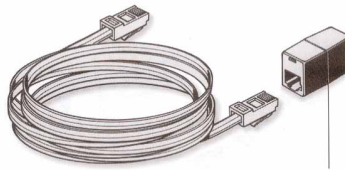

Figure 12. Terminal Connector
3. Connect the other end of the terminal connector to the extension loom (See **Figure 12**)